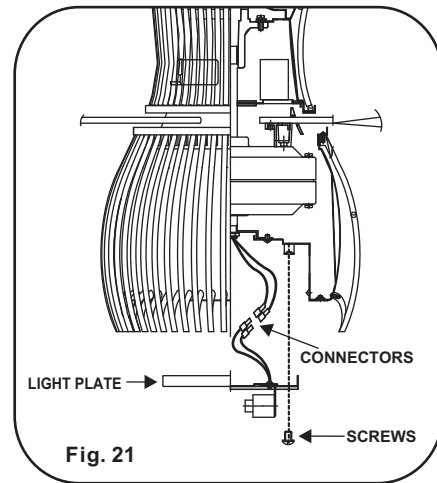

Fig. 21
2. Raise and hold the light plate close to the decorative housing and proceed to do the wire connections. Connect the white wire connectors from the light plate and fan, follow the same procedure with the black wire connectors. (Fig. 21)
3. Place the key holes from the light plate over the 3 screws previously loosened from the decorative housing, turn light plate until it locks in place at the narrow section of the key holes. Secure by tightening the 2 screws previously loosened and the one previously removed. (Fig. 21)